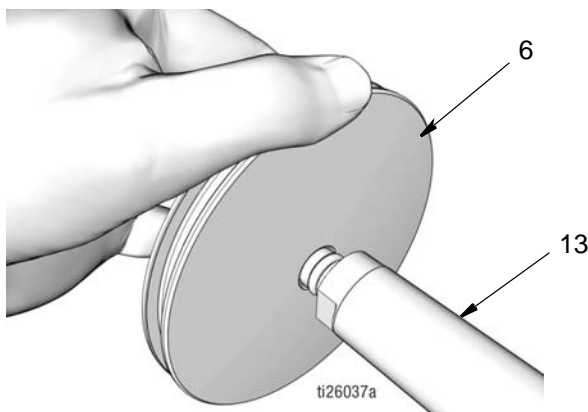

FIG. 47
- Push piston (6) over end of piston rod (13) until it is seated on the rod (FIG. 47).